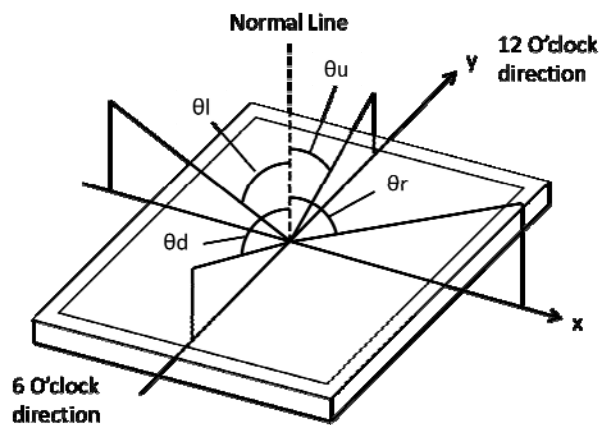

FIG. 4 Viewing Angle
4. Viewing angle is the angle at which the contrast ratio is greater than 10. The angles are determined or the horizontal or x axis and the vertical or y axis with respect to the z axis which is normal to the LCD module surface. For more information, see the FIG. 4.